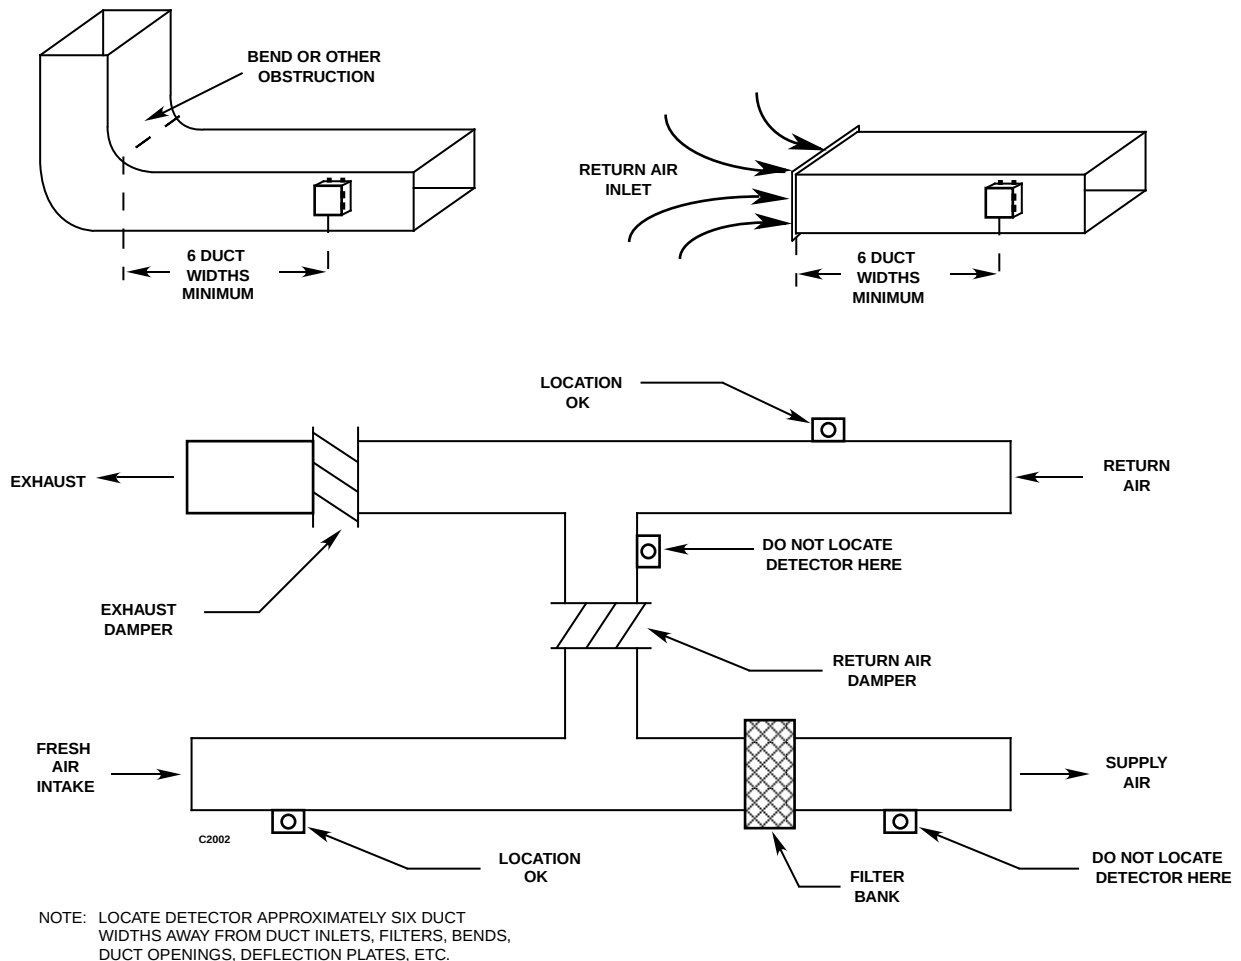

Figure 3—Detector Location Options within the Duct
2. When detectors are located downstream from “obstructions” such as filters, bends, duct openings, or deflection plates, they should be installed approximately six duct widths away from the obstruction. See Figure 3. These locations provide fairly uniform, non-turbulent air-flow, and are homogenous with respect to air/gas mixing.